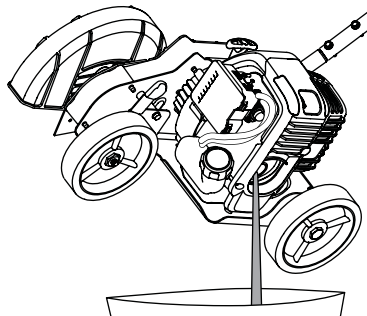

Fig. 20
3. Pour the oil out of the oil fill hole and into a container by tipping the unit to a vertical position (Fig. 20). Allow ample time for complete drainage.